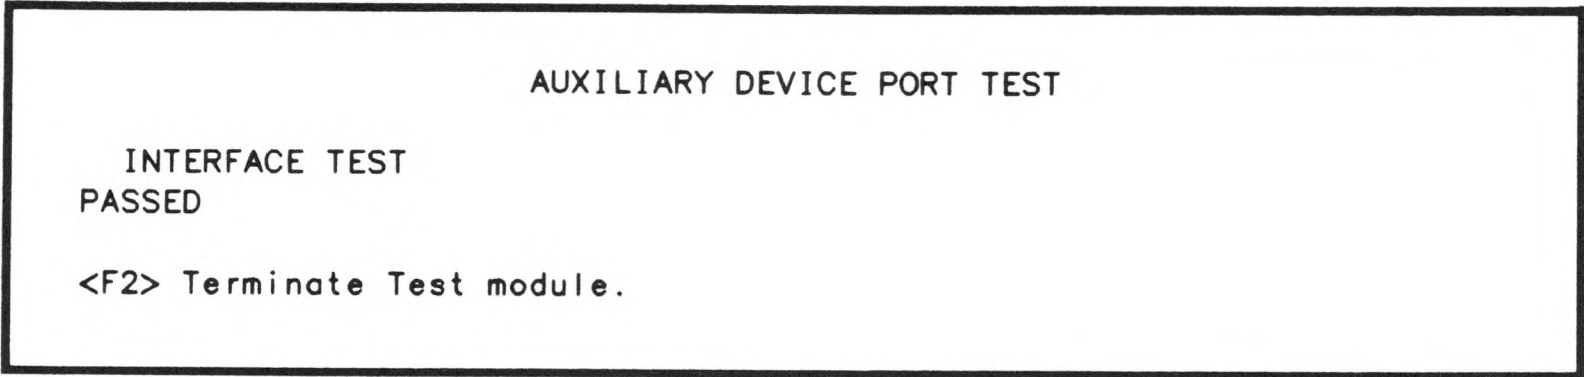

Figure 3-25. Auxiliary Device Port Test Screen
Step 2 Type 13 and then <Enter>. The results of the test are displayed as shown in Figure 3-25.